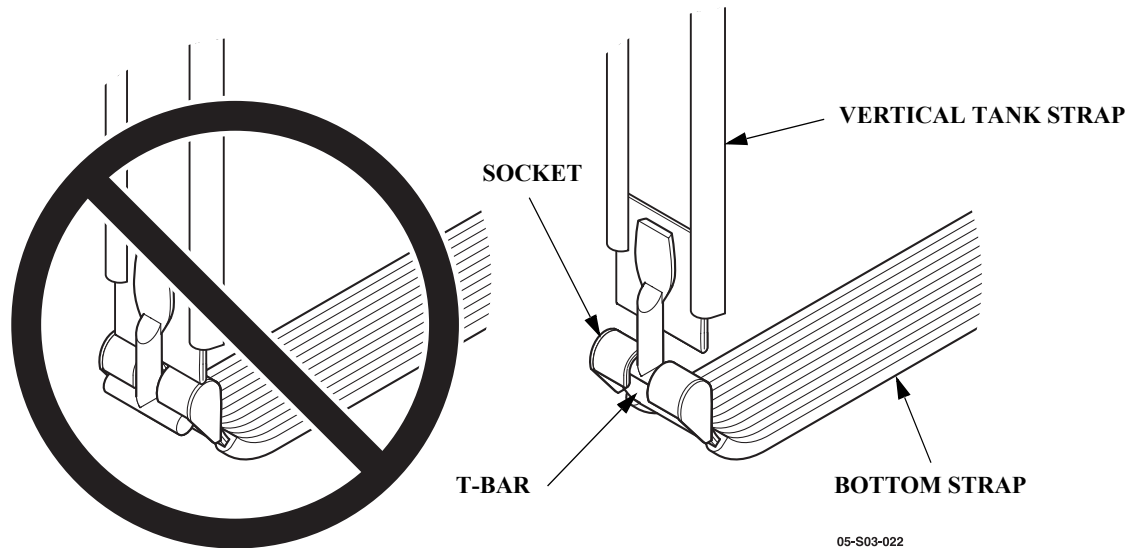

Figure 6: Vertical Strap Attachment to Bottom Strap
39. Hook the front bottom tank strap onto the outer strap T-bar ensuring the bar is seated fully in the socket on the bottom strap end (See Figure 6).
42. Hook the rear bottom support strap onto the outer strap T-bar ensuring the bar is seated fully in the socket on the bottom strap outer end (See Figure 6).